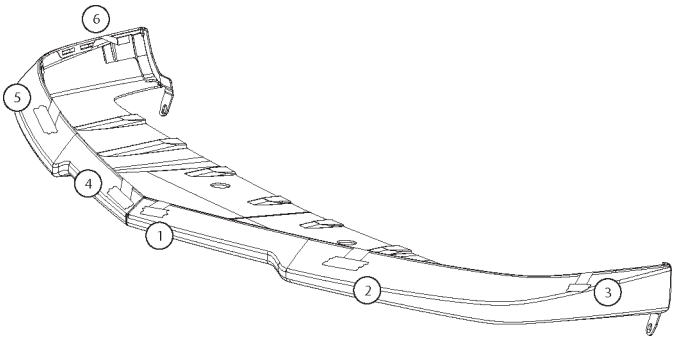

FIGURE 30
4. Attach tape leader tabs to the outside of the part using masking tape. Refer to figure 30.